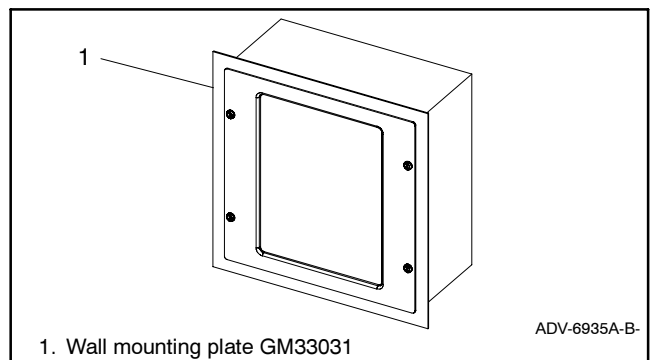

Figure 34 RSA Wall Mounting Plate
- 5.2.1 Place the wall mounting plate GM33031 *behind* the RSA front panel assembly flange if not already done. See Figure 34.